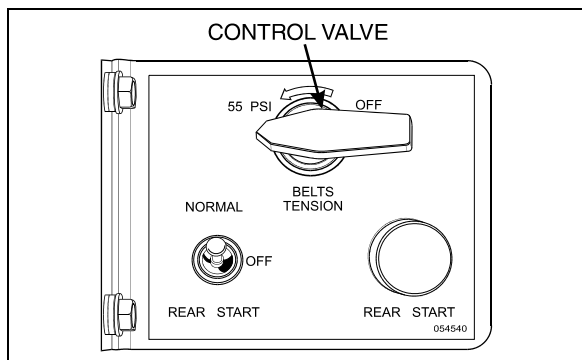

FIGURE 15: ENGINE COMPARTMENT 01044
4. Locate the belt tensioner control valve (Fig. 15). Turn handle clockwise in order to release pressure in belt-tensioner air bellows and loosen belts. Remove the belts.